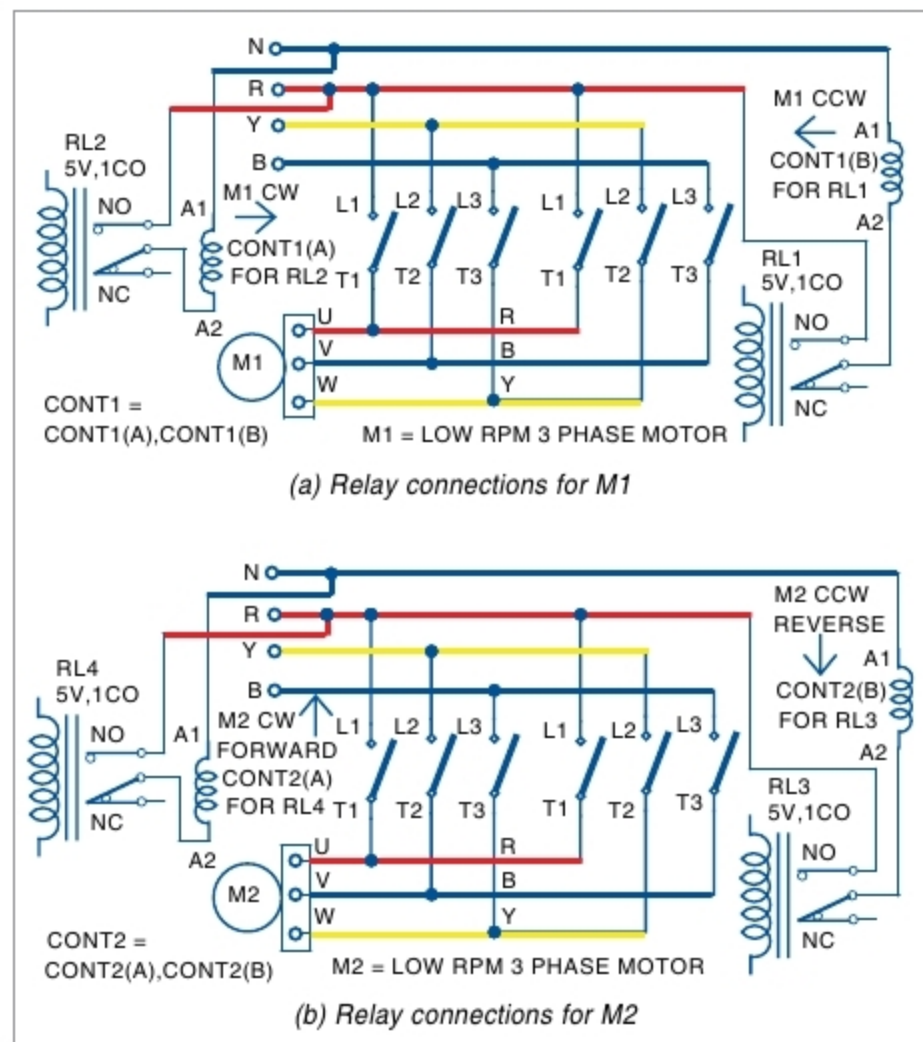

Fig. 6: Motor connections with contactors and relays
and CCW directions are shown in Fig. 6. RL1 and RL2 are used to drive M1 in CW and CCW directions, respectively, via contactor1. It has two separate individual contactors, CONT1 (A) and CONT1 (B).
An actual-size PCB layout of the thin-film deposition technique using MCU is shown in Fig. 8 and its components layout in Fig. 9. After assembling the circuit on the PCB, connect the relays to the respective motor and contactor according to the circuit given in Fig. 6.